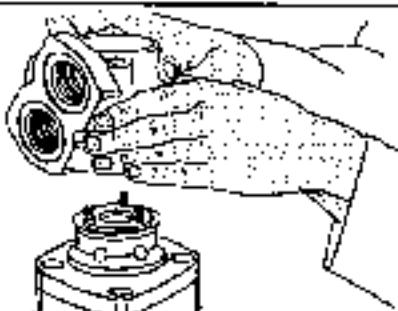

Fig. 2.3.6c
3. Carefully lift the valve housing straight up (fig. 2.3.6c). The balance ring subassembly and springs should remain on the valve.